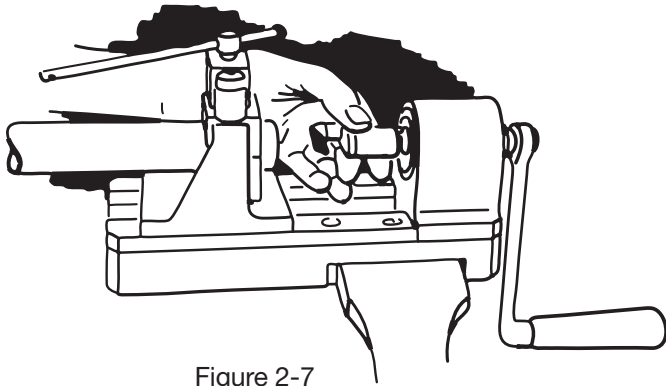

Figure 2-7
**2-7. DEBURRING, EXTERNAL.** Place external deburring tool in spindle, engaging pin with hole in spindle. (See Figure 2-7.)